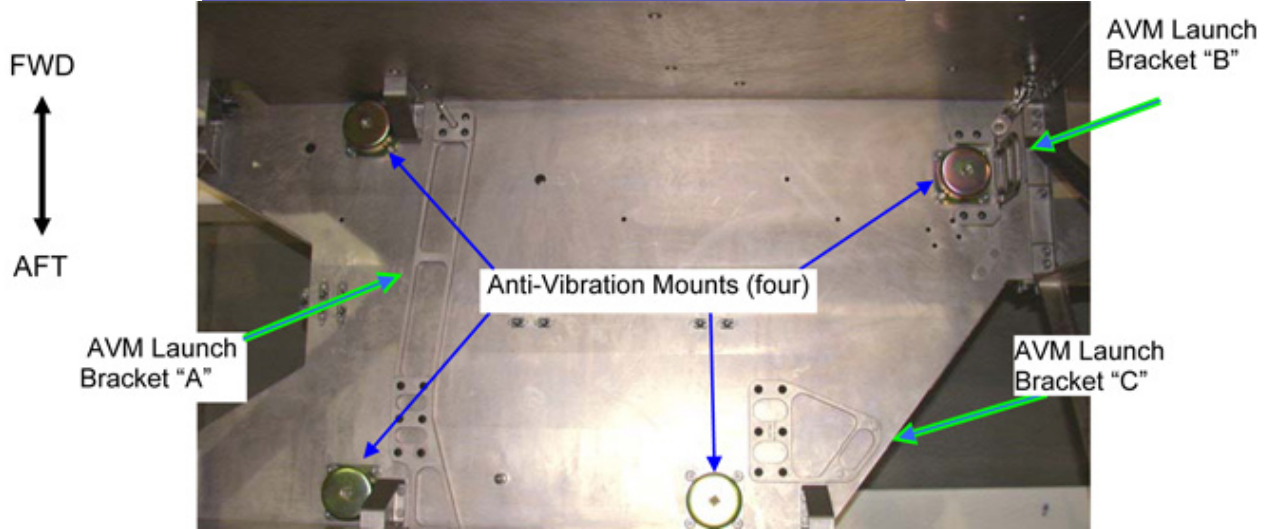

Figure 2. View Inside Overhead Alcove showing PPA AVMs. PPA removed for clarity.
- 3.1 Remove MTL PPA AVM Launch Bracket "A" launch bolts "A1" (four) (Ratchet, 1/4" Drive; 10" Ext, 6" Ext, and 4" Ext; 1/2" Socket). Refer to Figures 2, 3.
Refer to Figures 2, 3.